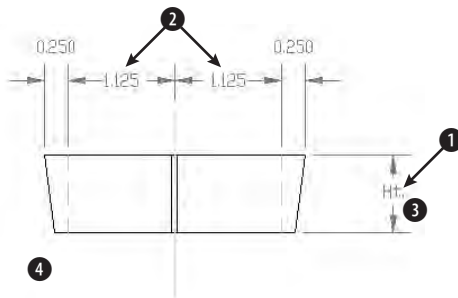

Figure 14-41: A dimensioned cross section of a valve part
2. Save the file as `ab14-10.dwg` in your **AutoCAD Bible** folder. This is a cross section of a valve part, as shown in Figure 14-41. Open the Dimension toolbar if it is not displayed.
3. To replace the dimension marked Ht., choose **Modify** ⇨ **Object** ⇨ **Text** ⇨ **Edit**. At the **Select an annotation object or [Undo]: prompt**, choose the dimension at ❶ in Figure 14-41. The Multiline Text Editor opens with the text displayed. Select the current text and type <>. Click OK. AutoCAD automatically creates the original measured dimension. Press Enter to end the command.
4. Select the two dimensions marked ❷ in Figure 14-41. Also select the cyan center line and the two green hidden lines. Choose **Quick Dimension** from the Dimension toolbar. At the first prompt, right-click and choose **Edit**. At the **Indicate dimension point to remove, or [Add/eXit] <eXit>: prompt**, choose the two edit points (each marked with an “x”) on the cyan center line. Right-click and choose **Exit**. At the **Specify dimension line position, or [Continuous/Staggered/Baseline/Ordinate/Radius/Diameter/ datumPoint/Edit/SeTtings] <Continuous>: prompt**, place the dimension line where it was previously. (You can use the outside arrows as a guide.)
5. Pick the dimension at ❶. Click the grip on the text to activate it. Drag it to the left slightly to place it closer to the object it is dimensioning.